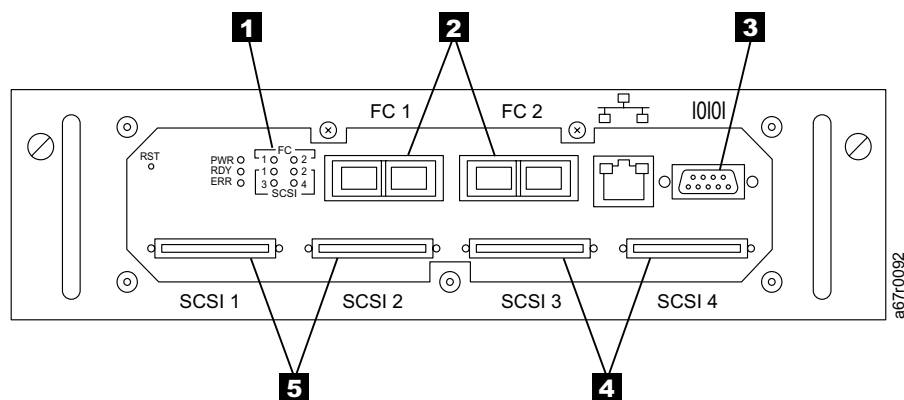

Figure 82. Gateway Panel
3. See Figure 82 on page 114. You will need to configure first the IP address by connecting a terminal or terminal emulator to the service port **3** of the Gateway (see “Appendix A. Connecting to the Service Port” on page 117).